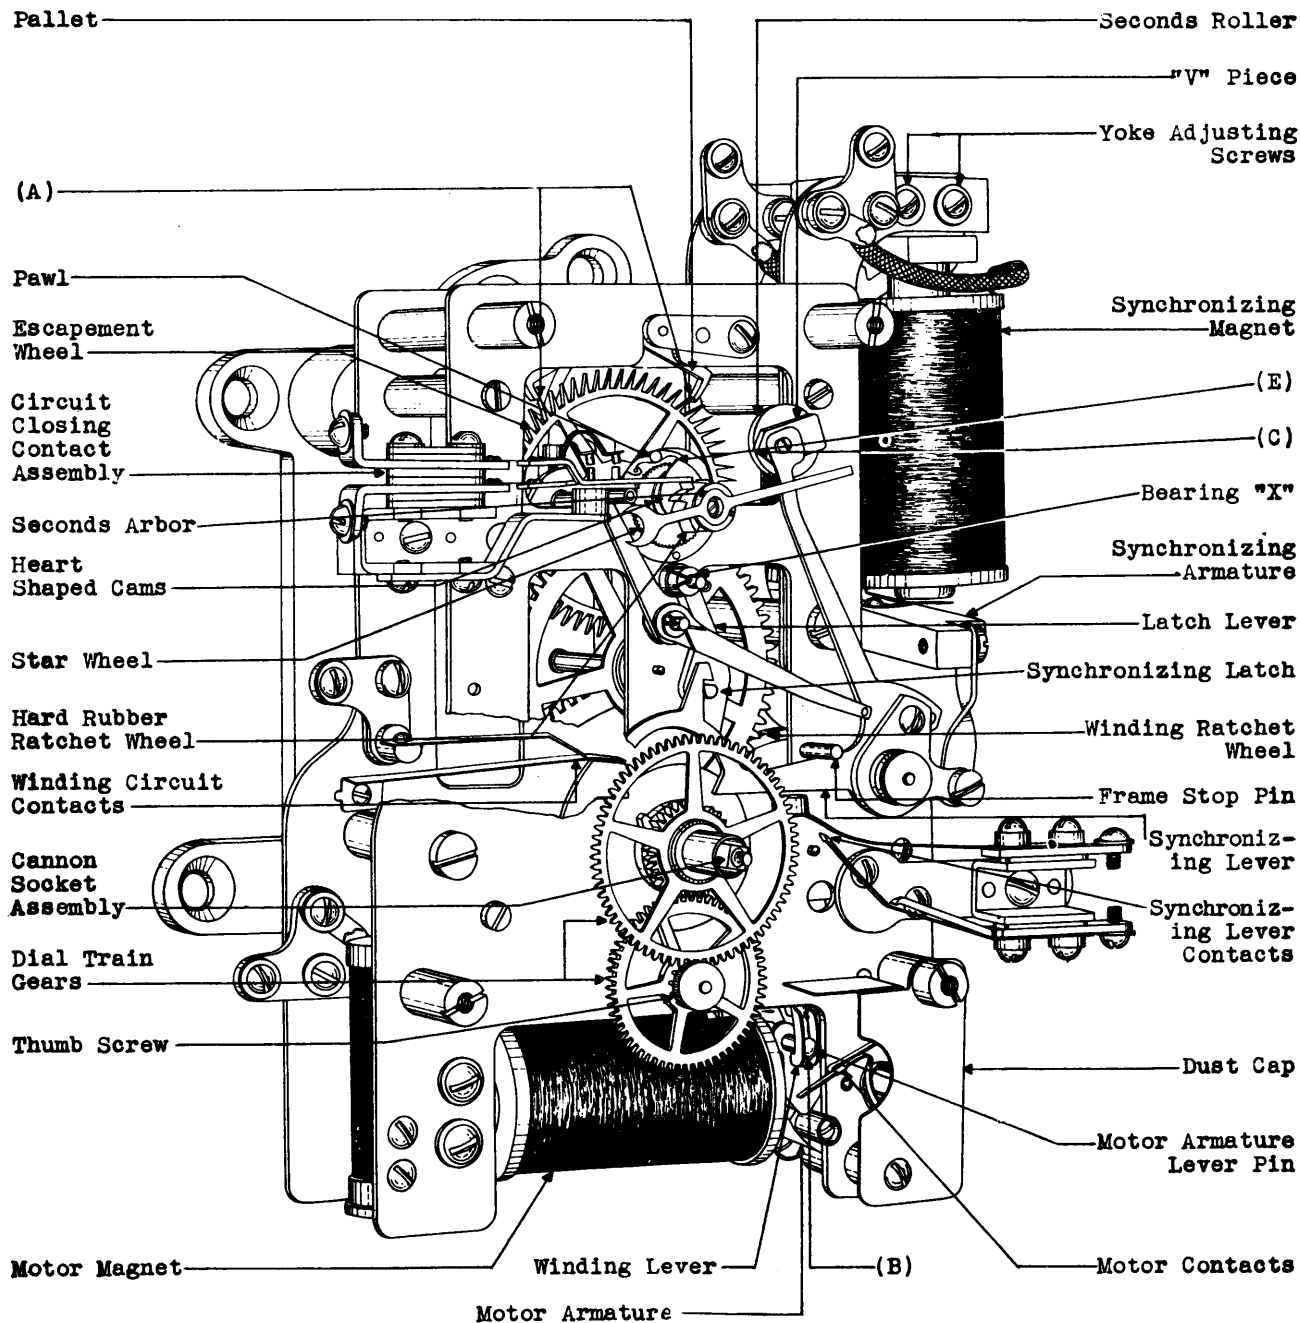

Fig. 1 - General Assembly of typical Mechanism
Both points of contact between the escapement wheel and pallet - Fig. 1 (A).
The point of contact between the motor armature lever pin and the winding lever - Fig. 1 (B).
Each bearing of the synchronizing mechanism - including the seconds roller bearing - except bearing "X" - (Fig. 1).
Point of "Y" piece - Fig. 1 (C).
Rim of each of the two heart shaped cams - Fig. 1 (D).
Point of contact between star wheel ratchet and pawl - Fig. 1 (E).